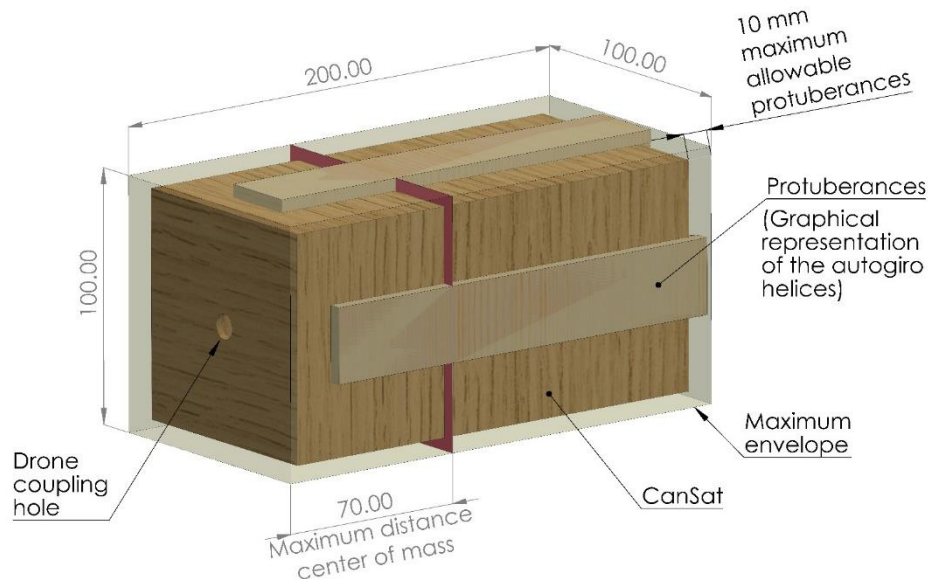

Figure 1. CanSat's maximum dimensions and outside Shell of the structure in 2025.
- The shape and dimensions of the CanSat must be those of two units of a standard CubeSat (See Figure 1).
- The autogyro system must be contained inside the shell, it may have protrusions of maximum one centimetre measured from the external surfaces of the CanSat structural support. This autogyro must activate at 200 meters high, above the ground in which it is lifted up (See Figure 1).
- The CanSat's centre of mass must be located within a maximum of 7 cm away from the hole in which the support structure will hold the CanSat. The autogyro system must be placed on the opposing side of the support structure hole (see Figure 1).